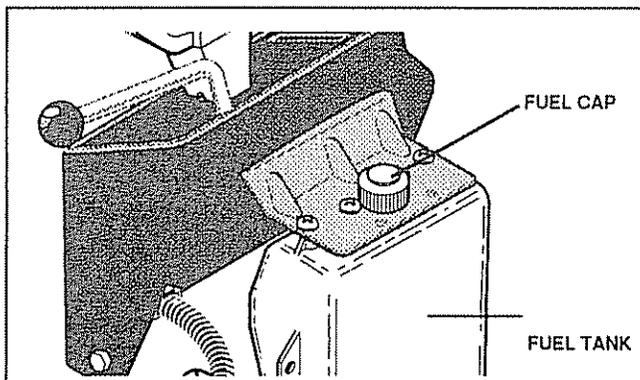

FIG. 9
- Fill tank (see Fig. 9). Use fresh, clean, regular Unleaded gasoline. (Use of leaded gasoline will increase carbon and lead oxide deposits and reduce valve life).